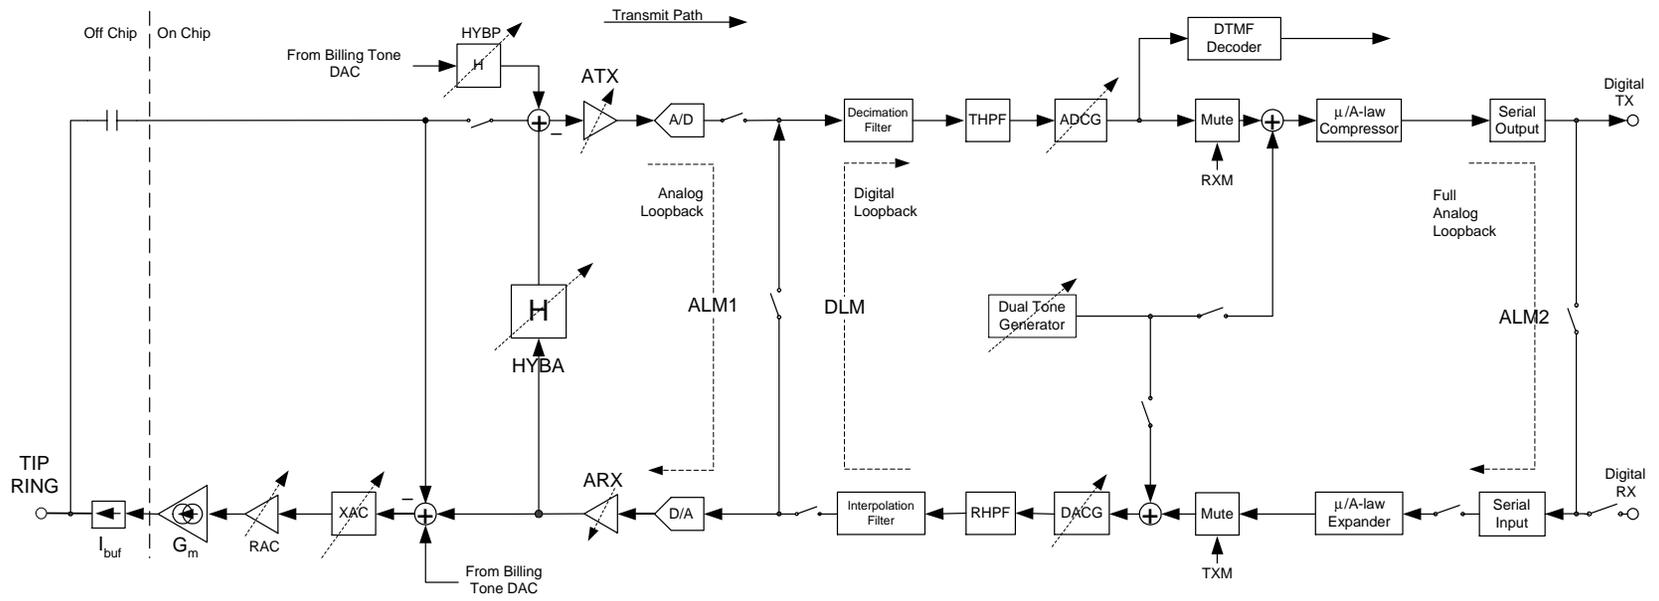

Figure 22. AC Signal Path Block Diagram
Unlike traditional SLICs, the codec function is integrated into the ProSLIC. The 16-bit codec offers programmable gain/attenuation blocks and several loop-back modes. The signal path block diagram is shown in Figure 22.
The block diagram for the voice-band signal processing paths are shown in Figure 22. Both the receive and the transmit paths employ the optimal combination of analog and digital signal processing to provide the maximum performance while, at the same time, offering sufficient flexibility to allow users to optimize for their particular application of the ProSLIC. All programmable signal-processing blocks are symbolically indicated in Figure 22 by a dashed arrow across them. The two-wire (TIP/RING) voice-band interface to the ProSLIC is implemented using a small number of external components. The receive path interface consists of a unity-gain current buffer, I_{BUF} , while the transmit path interface is simply an AC coupling capacitor. Signal paths, although implemented differentially, are shown as single-ended for simplicity.
The ProSLIC provides programmable transhybrid balance with gain block H. (See Figure 22.) In the ideal case where the synthesized SLIC impedance matches exactly the subscriber loop impedance, the transhybrid balance should be set to subtract a -6 dB level from the transmit path signal. The transhybrid balance gain can be adjusted from -2.77 dB to $+4.08$ dB around the ideal setting of -6 dB by programming the HYBA[2:0] bits of the Hybrid Control register (direct Register 11). Note that adjusting any of the analog or digital gain blocks will not require any modification of the transhybrid balance gain block, as the transhybrid gain is subtracted from the transmit path signal prior to any gain adjustment stages. The transhybrid balance can also be disabled, if desired, using the appropriate register setting.
- The full analog loopback (ALM2) tests almost all the circuitry of both the transmit and receive paths. The compressed 8-bit word transmit data stream is fed back serially to input of the receive path expander. (See Figure 22.) The signal path starts with the analog signal at the input of the transmit path and ends with an analog signal at the output of the
- An additional analog loopback (ALM1) takes the digital stream at the output of the A/D converter and feeds it back to the D/A converter. (See Figure 22.) The signal path starts with the analog signal at the input of the transmit path and ends with an analog signal at the output of the receive path. This loopback option allows the testing of the analog signal processing circuitry of the Si3210 completely independent from any activity in the DSP.
- The full digital loopback tests almost all the circuitry of both the transmit and receive paths. The analog signal at the output of the receive path is fed back to the input of the transmit path by way of the hybrid filter path. (See Figure 22.) The signal path starts with 8-bit PCM data input to the receive path and ends with 8-bit PCM data at the output of the transmit path. The user can bypass the companding process and interface directly to the 16-bit data.
Real and complex two-wire impedances are realized by internal feedback of a programmable amplifier (RAC) a switched capacitor network (XAC) and a transconductance amplifier (G_m). (See Figure 22.) RAC creates the real portion and XAC creates the imaginary portion of G_m 's input. G_m then creates a current that models the desired impedance value to the subscriber loop. The differential AC current is fed to the subscriber loop via the ITIPP and IRINGP pins through an off-chip current buffer (I_{BUF}), which is implemented using transistor Q1 and Q2 (see Figure 9 on page 18). G_m is referenced to an off-chip resistor (R_{15}).